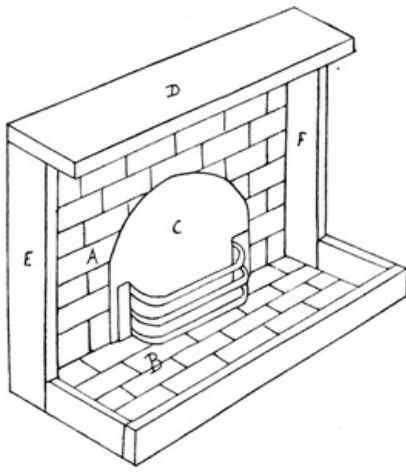

FIG. 366
**A Fire-place** (Fig. 366). This toy is made of wood and cardboard. Its size will depend upon the doll's house for which it is made. The mantelpiece, D, is a piece of wood glued and nailed to two wooden supports, E and F. To the back of these a piece of cardboard, A, is glued. This is coloured to look like tiles, and space C is painted black. The grate is made of cardboard (Fig. 367). The shaded portions are cut out and half cuts are made along the dotted lines. It is coloured black, bent as in Fig. 366 and gummed to the cardboard back. The fender is of wood, and is glued to E and F and to a cardboard bottom, B, which is coloured to represent tiles. [Pg 193]